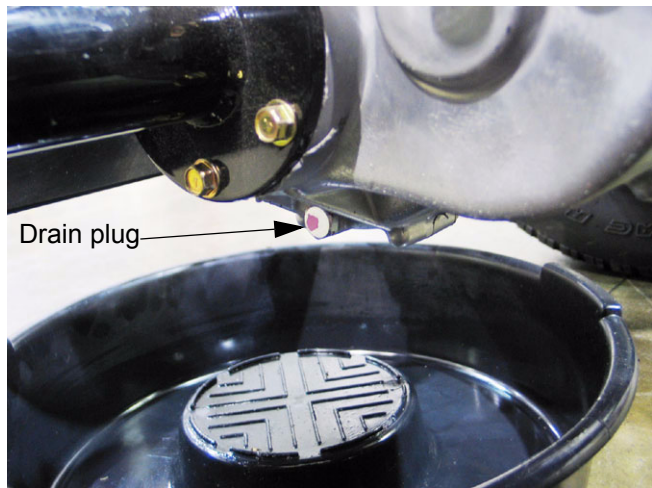

Figure 2.11
- 2.11. Place a drain pan under the transaxle. See Figure 2.11.